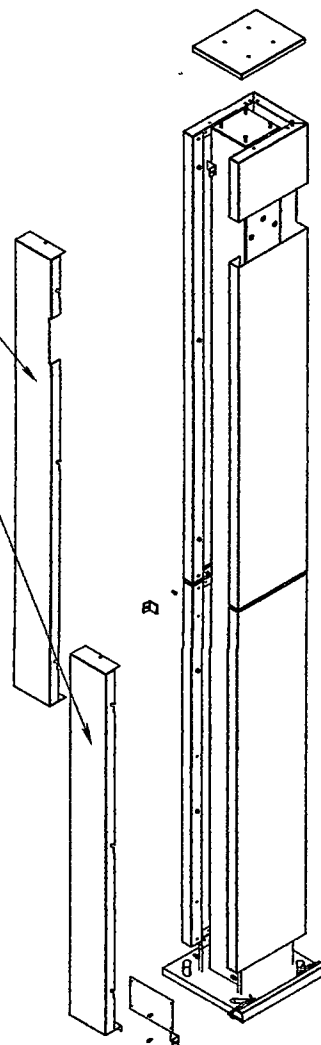

FIGURE 4
3. INSERT (12), #8-18 X 1/2" HXWH TEK SCREWS W/ 1/4" X 1/8" NYLON BUSHINGS INTO CLADDING HOLES IN LOCATIONS SHOWN DETAIL B. (6 PER PANEL)
4. SLIDE LOWER REMOVABLE CLADDING PANEL OVER BOTTOM 6 SCREWS, MAKE SURE PANEL IS FLUSH WITH BOTTOM OF CLADDING TO ENSURE PROPER INSTALLATION (SEE FIGURE 4).
- SLIDE TOP REMOVABLE PANEL ONTO (6) SCREWS SAME WAY THE LOWER PANEL IS ATTACHED (SEE FIGURE 4).